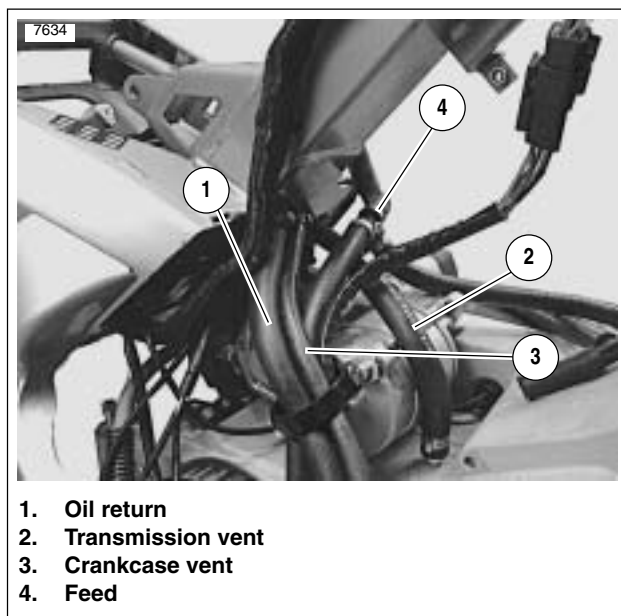

Figure 3-29. Connect Lines
13. See Figure 3-29. Connect feed, return, transmission and crankcase vent lines.